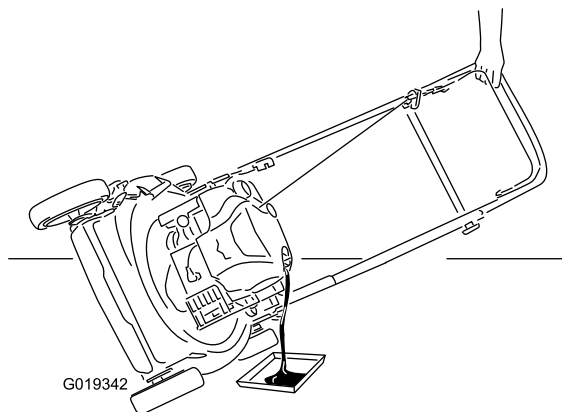

Figure 43
7. Tip the machine onto its side, with the oil-fill tube down, to drain the used oil out through the oil-fill tube into the oil-drain pan (Figure 43).